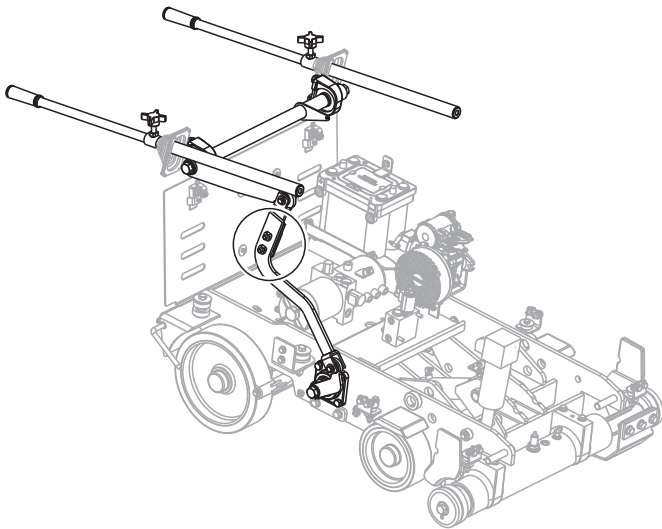

Figure 21. Stay-Level Handlebars
1. Loosen the SLH linkage adjustment plate bolts (Figure 21).